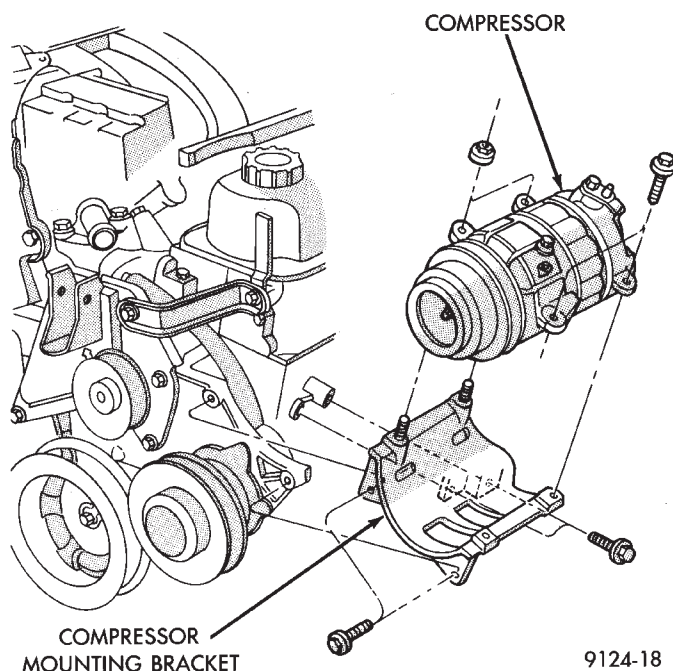

Fig. 1 A/C Compressor Removal and Installation—3.3L Engines
- (1) Disconnect NEGATIVE battery cable.
- (2) Loosen and remove drive belts (Refer to Group 7, Cooling System) and disconnect compressor clutch wire lead.
- (3) Remove refrigerant lines from compressor (if necessary).
- (4) Remove compressor attaching nuts and bolts (Fig. 1 and 2).
- (5) Remove compressor. If refrigerant lines were not removed, lift compressor/clutch assembly and tie it to a suitable component.